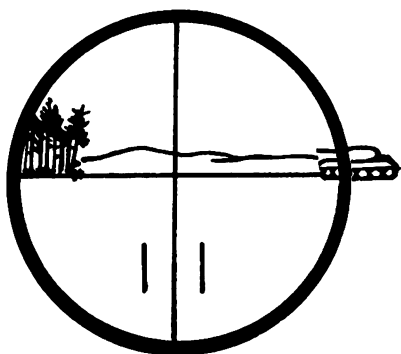

Figure 7.
b. If there is a covered area along this path (figure 7), there is not enough time to fire and hit the target. The target is NOT engageable.